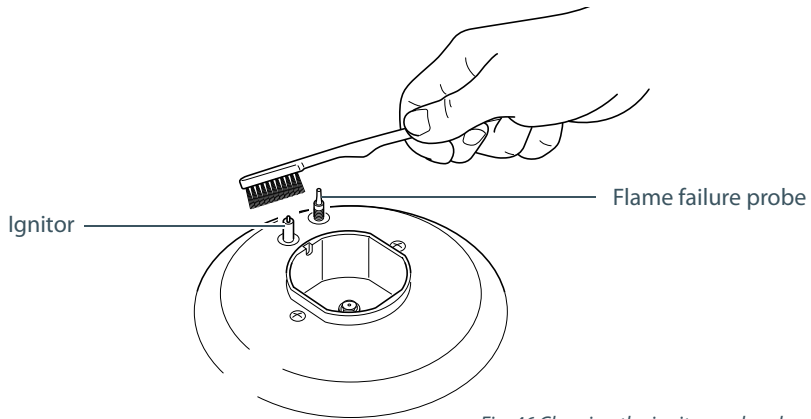

Fig. 46 Cleaning the ignitor and probe
- The ignitors are sparking. If the ignitors are not sparking, they may be dirty or wet. Clean them with a toothbrush and methylated spirits, as shown in Fig. 46.
Note: both the ignitor and probe must be very carefully cleaned using a toothbrush and methylated spirits (see Fig. 46).